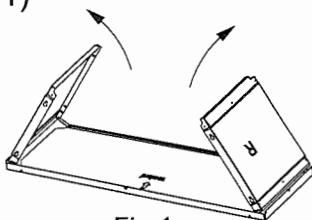

Fig.1
- Open the LEFT COVER and RIGHT COVER as shown below. (See Fig.1)